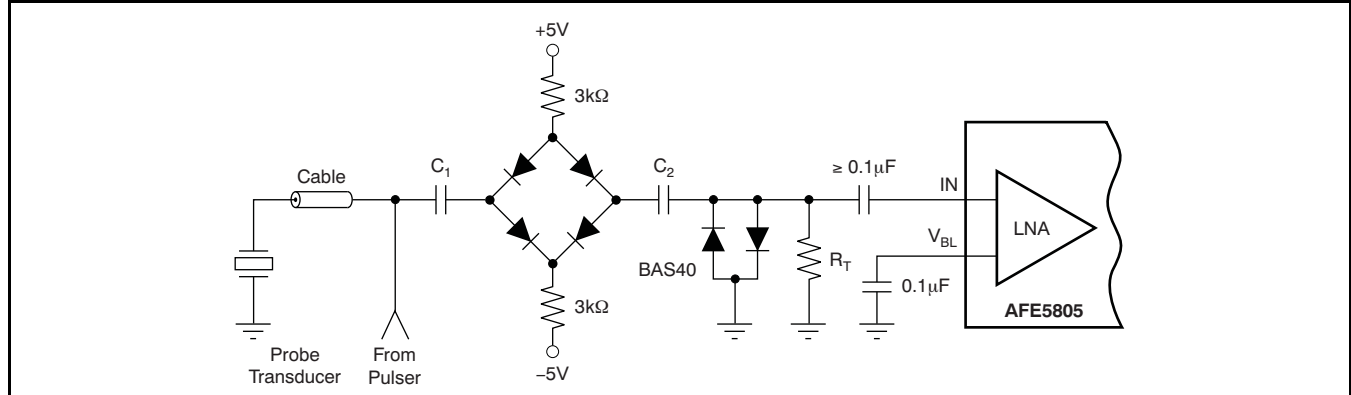

Figure 51. Typical Input Overload Protection Circuit of an Ultrasound System
The AFE5805 is designed in particular for ultrasound applications where the front-end device is required to recover very quickly from an overload condition. Such an overload can either be the result of a transmit pulse feed-through or a strong echo, which can cause overload of the LNA, PGA, and ADC. As discussed earlier, the LNA inputs are internally protected by a pair of back-to-back diodes to prevent severe overload of the LNA. Figure 51 illustrates an ultrasound receive channel front-end that includes typical external overload protection elements. Here, four high-voltage switching diodes are configured in a bridge configuration and form the transmit/receive (T/R) switch. During the transmit period, high voltage pulses from the pulser are applied to the transducer elements and the T/R switch isolates the sensitive LNA input from being damaged by the high voltage signal. However, it is common that fast transients up to several volts leak through the T/R switch and potentially overload the receiver. Therefore, an additional pair of clamping diodes is placed between the T/R switch and the LNA input. In order to clamp the over-voltage to small levels, Schottky diodes (such as the BAS40 series by Infineon®) are commonly used. For example, clamping to levels of $\pm 0.3\text{V}$ can significantly reduce the overall overload recovery performance. The T/R switch characteristics
As Figure 51 shows, the front-end circuitry should be capacitively coupled to the LNA signal input (IN). This coupling ensures that the LNA input bias voltage of $+2.4\text{V}$ is maintained and decoupled from any other biasing voltage before the LNA.
Within the AFE5805, overload can occur in either the LNA or the PGA. LNA overload can occur as the result of T/R switch feed-through; and the PGA can be driven into an overload condition by a strong echo in the near-field while the signal gain is high. In any case, the AFE5805 is optimized for very short recovery times, as shown in Figure 51.